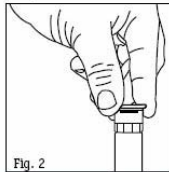

Fig. 2
1. Hold the perimeter of the nozzle with fingers and turn the nozzle counterclockwise to increase the arc. (Fig. 2)